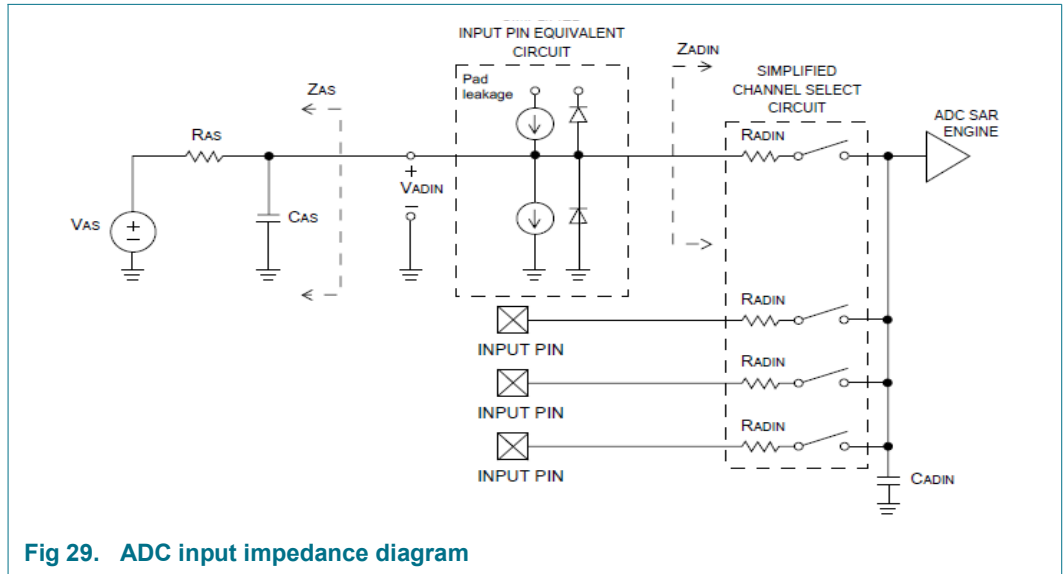

Fig 29. ADC input impedance diagram
| VADIN            | analog input voltage         | See <a href="#">Figure 29</a>                  | VREFN  | -                  | VREFP | V          |
| CADIN            | Analog Input Capacitance     | See <a href="#">Figure 29</a> . [3] | -  | 4.5                | -     | pF         |
| RADIN            | Input Resistance             | See <a href="#">Figure 29</a> .                | -  | 500                | -     | $\Omega$   |
| RAS              | Analog source resistance     | See <a href="#">Figure 29</a> . [8] | -  | -                  | 5     | k $\Omega$ |
- [3] CADIN represents the external capacitance on the analog input channel for sampling speeds of 1.0 Msamples/s. No parasitic capacitances included. See Figure 29
- [8] This resistance is external to the MCU. To achieve the best results, the analog source resistance must be kept as low possible. The results in this data sheet were derived from a system that had  $< 15\ \Omega$  analog source resistance. See Figure 29.
- (1) Example of an actual transfer curve.
- (2) The ideal transfer curve.
- (3) Differential linearity error ( $E_D$ ).
- (4) Integral non-linearity ( $E_{L(adj)}$ ).
- (5) Center of a step of the actual transfer curve.